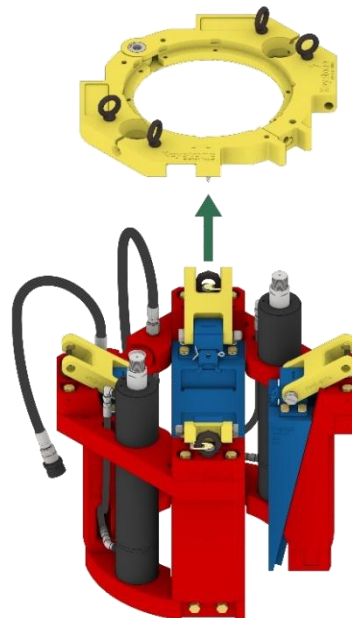

Fig. 26
**Step 4:** Install the lifting eyes in the leveling plate and lift the leveling plate off of the assembly. Fig. 26